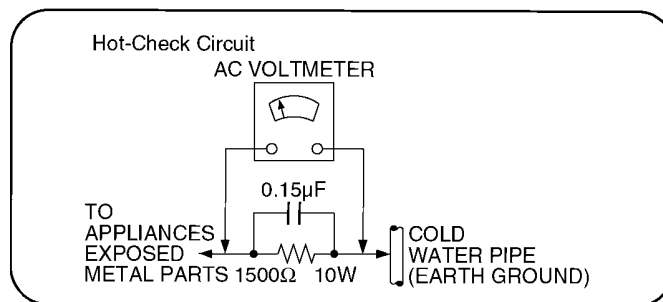

Figure 1
1.1.2. LEAKAGE CURRENT HOT CHECK (See Figure 1.)
2. Connect a $1.5\text{k}\Omega$, 10 watts resistor, in parallel with a $0.15\mu\text{F}$ capacitors, between each exposed metallic part on the set and a good earth ground such as a water pipe, as shown in Figure 1.